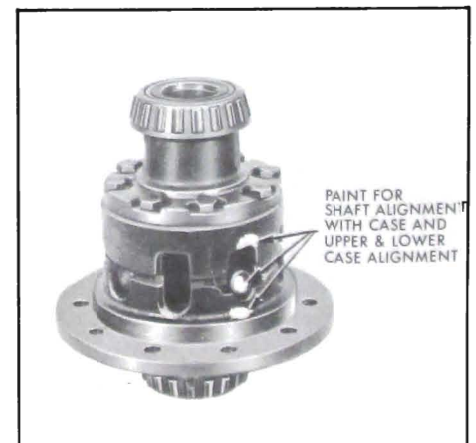

Figure 6-41—Alignments Marks
4. Mark flange half and cover half of case with a center punch or paint to provide alignment when assembling. If cross shafts are to be reused, see that they have a paint daub on one end of each shaft matching a similar paint daub on the case to assure assembly in proper location. See Figure 6-41.